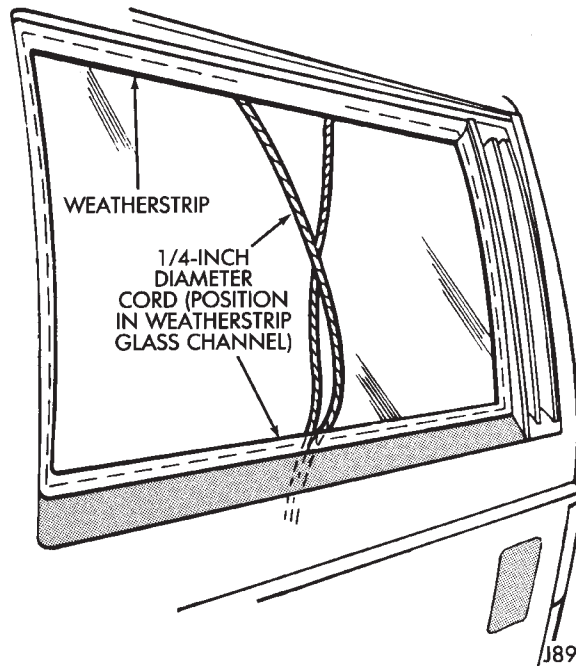

Fig. 27 Quarter Window Glass and Seal Installation
(6) Position the quarter window glass and the weatherstrip seal in the window opening (Figs. 25 and 26) with the free ends of the cord inside the vehicle (Fig. 27).
(7) Pull on each end of the cord to pull the weatherstrip seal channel lip over the window opening flanges.